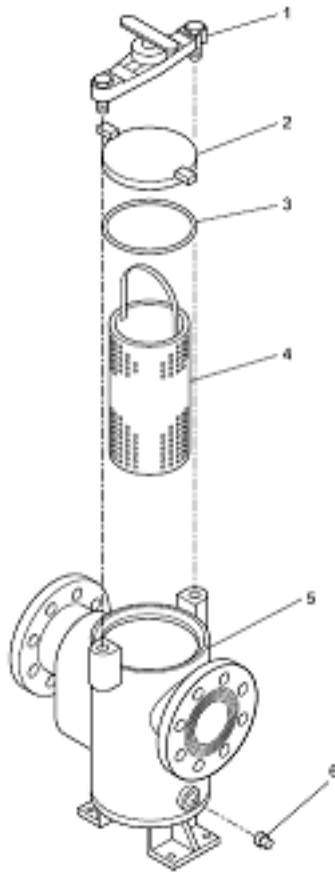

Figure 551-88L-2047\_01
- (1) Make sure that the basket is seated firmly.
- (2) Make sure that the basket handle is sufficiently high to be compressed by the cover.
- l. Clean the seal surface and inspect the cover and cover gasket/O-ring (item 3 of Figure 551-88L-2047\_01).
- (1) Renew the cover if it is warped, cracked or damaged.
- (2) Renew the gasket/O-ring if it is cut, scratched or cracked.